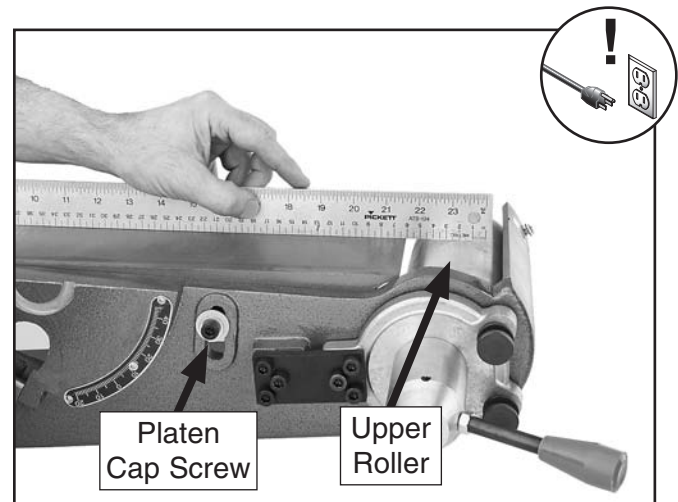

Figure 49. Comparing the platen height with the upper roller crown.
4. Place the straightedge over the platen and upper roller aligned with the middle of the roller (the crown at the highest point), as shown in **Figure 49**.
—If the platen is not even with or is higher than the upper roller crown, loosen the platen cap screw shown in **Figure 49**, adjust the platen even with the middle of the top roller, then re-tighten the cap screw to secure the platen in place.